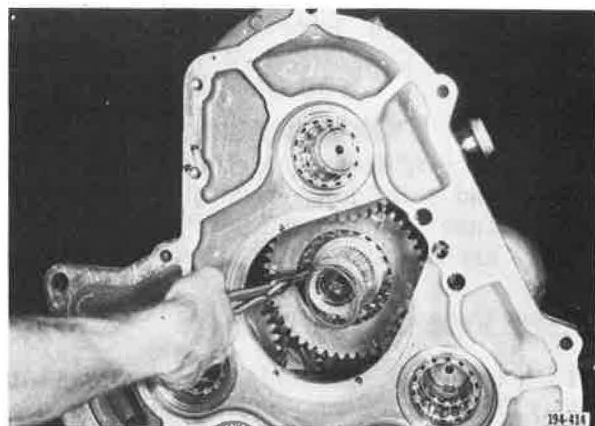

Figure 5-937. Installing Snap Ring
28. Install Hi-range gear retaining snap ring, using snap ring pliers J-6435 or equivalent. See Figure 5-937.